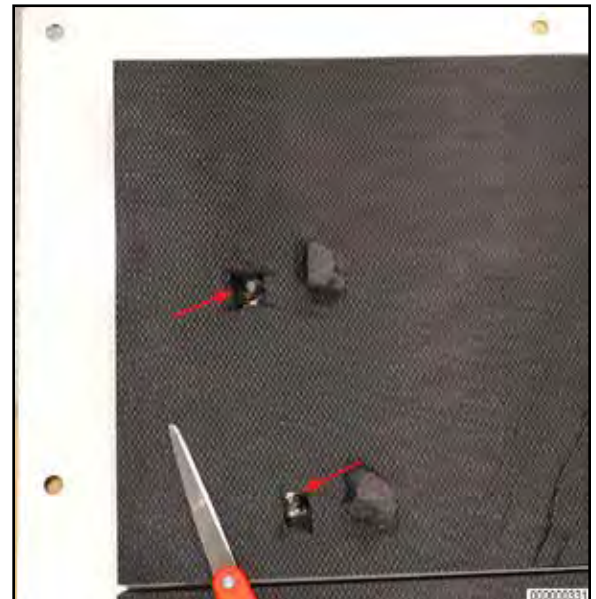

Figure 7
- **Step 13:** Flip rear plate over. Using scissors or safety knife, remove approximately 1 inch square of foam insulation from around each mounting hole as shown. (Figure 7)